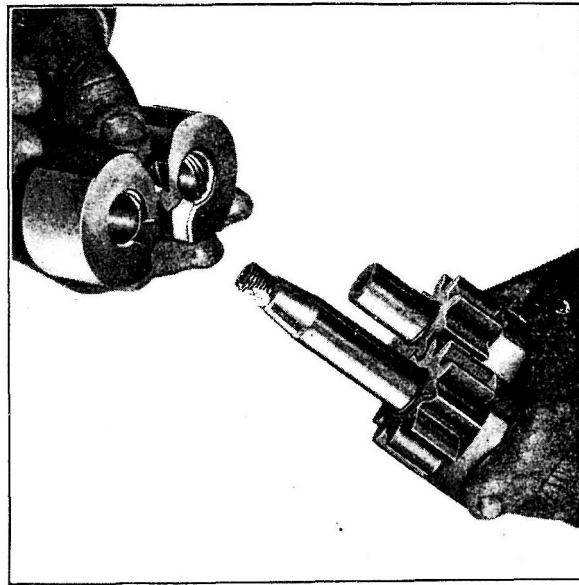

Fig. 41
2. Assemble the pump pressure driving gear to the nearer bore of the bearing, threaded end of the shaft pointing upwards and teeth meshing with the pressure driven gear (see Fig. 41).